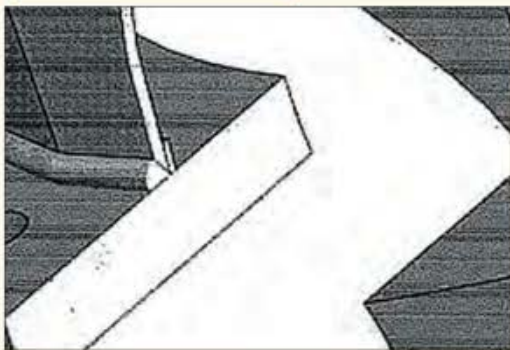

Figure 1. CJP joint cut-out showing butt-welded connection between the base plate and the pole wall.
■ **Complete joint-penetration groove weld** — The base plate is butted against the bottom of the monopole shaft and consists of 100-percent-complete weld penetration. In other words, the connection zone is all weld material. (See Figure 1, upper left).